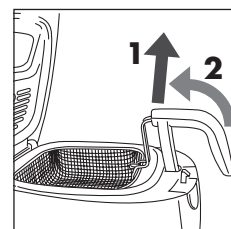

fig. 5
The basket has two different positions: the lower position to fry the food and the raised position to drain the food at the end of the cooking time. To lock the basket in position, raise it and push it inwards (fig.5).
2. Put the basket into the fryer bowl in a raised position (fig. 5) and close the lid by pressing lightly down upon it until the hooks click. Always close the lid before lowering the basket to avoid hot oil from splashing out.